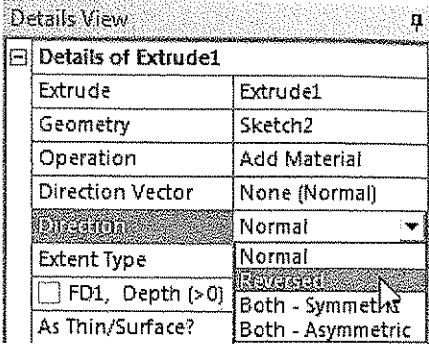

Figure 5-70 Selecting the Reversed option from the Direction drop-down list
16. Select the **Reversed** option from the **Direction** drop-down list in the **Details View** window, as shown in Figure 5-70.